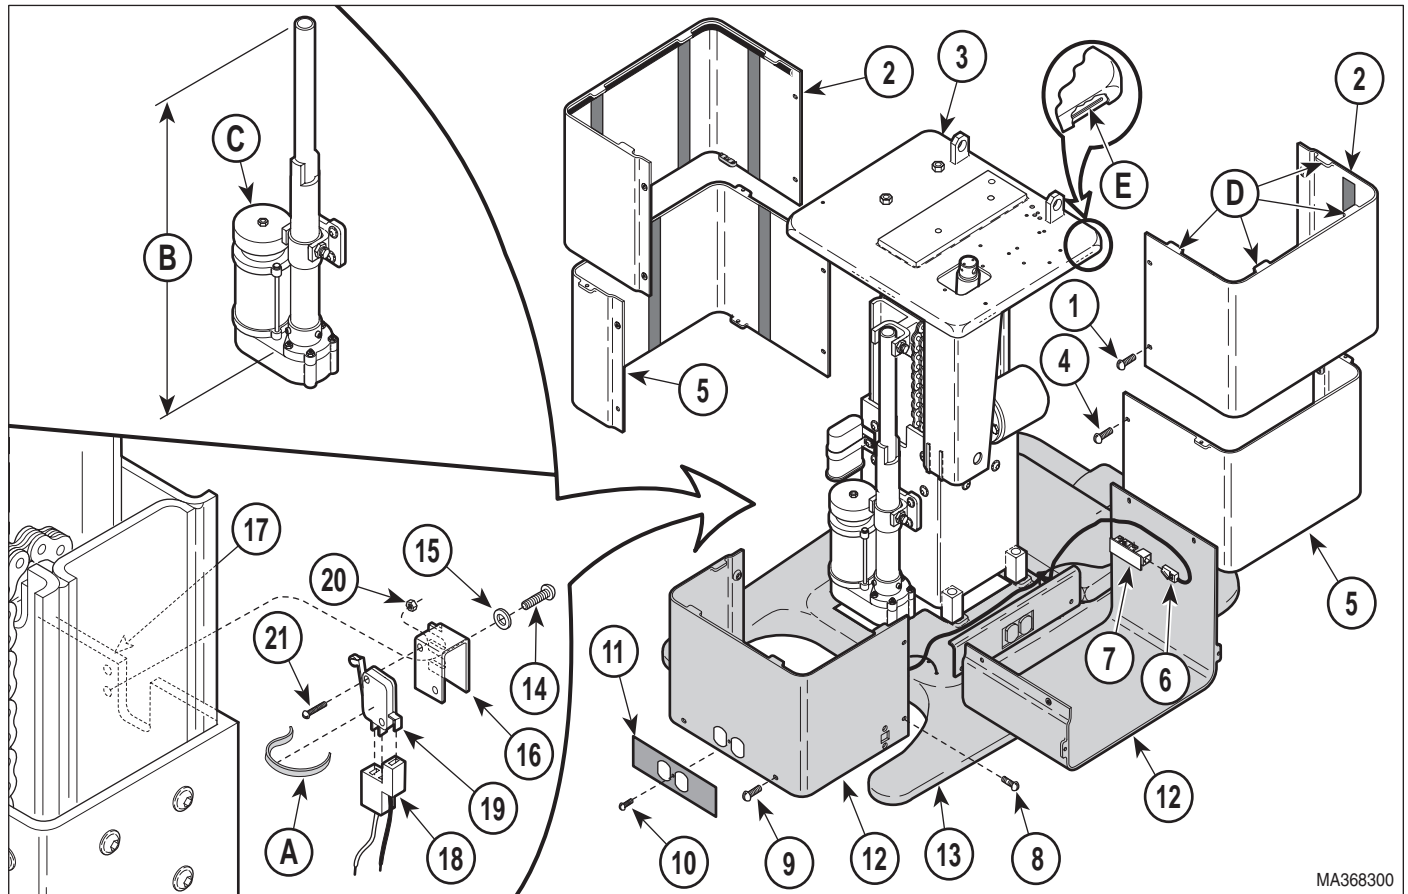

Figure 4-26. Base Up Limit Switch Removal / Installation
- (1) Unplug table power cord from outlet receptacle.
- (2) Remove four screws (1, Figure 4-26) and R.H. and L.H. outer shrouds (2) from column adapter weldment (3).
- (3) Remove four screws (4) and R.H. and L.H. middle shrouds (5).
- (4) Disconnect one modular cord (6) from each inlet PC board (7).
- (5) Remove four screws (8), four screws (9), two screws (10), two receptacle label plates (11), and partially remove R.H. and L.H. inner shrouds (12) from base casting (13).
- (6) Remove two screws (14), washers (15), and partially remove limit switch bracket (16) from column weldment (17).
- (7) Cut cable tie (A) securing wire harness (18) to base up limit switch (19).
- (8) Disconnect wire harness (18) from terminals of base up limit switch (19).
- (9) Remove two nuts (20), screws (21), and base up limit switch (19) from limit switch bracket (16).